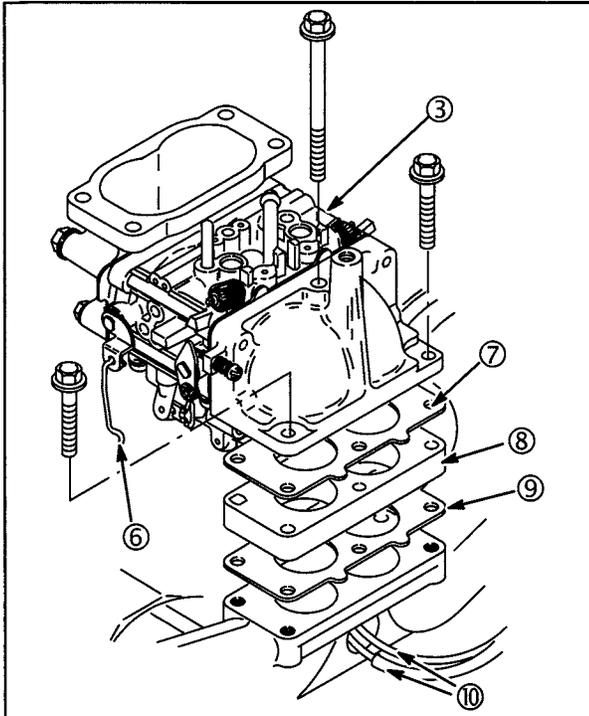

Fig. 33
- Assemble choke link (6) to choke lever, **Fig. 33**.